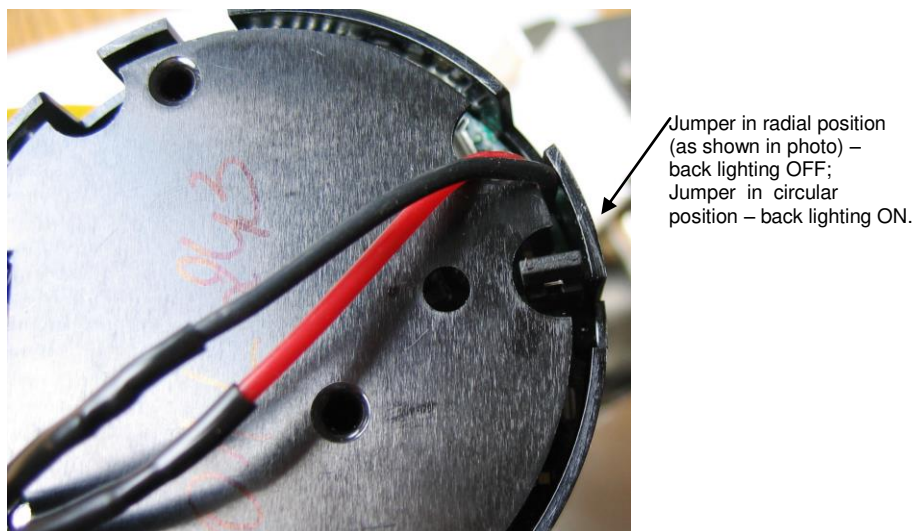

Fig. 5. Rear view of electronic/display module
- **Display backlighting** – The display is equipped with a backlight which can be turned on and off via a jumper on the electronic board. Fig. 5 shows how to position this link.